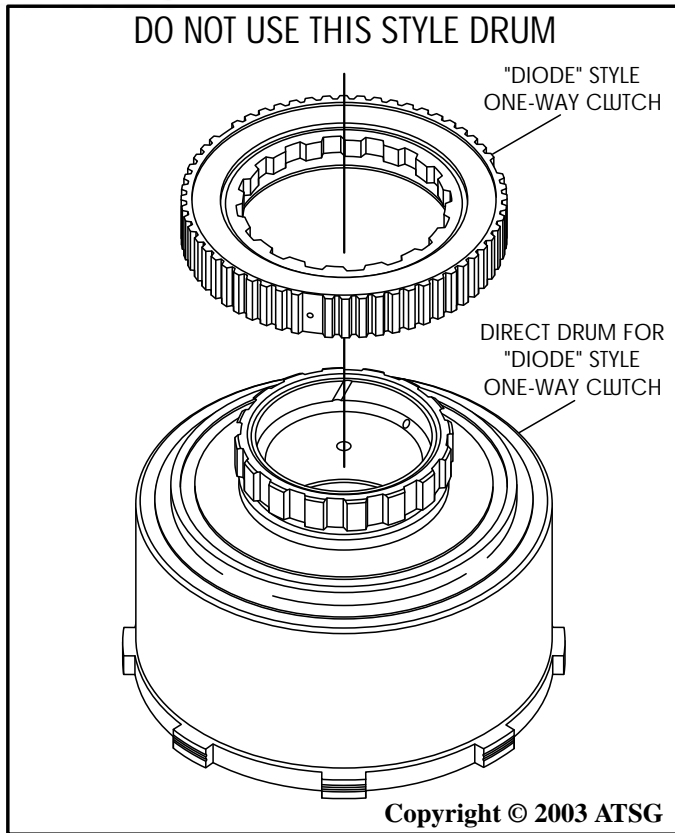

Figure 113
5. We have illustrated the "Diode" style one-way intermediate clutch and the associated direct clutch drum in Figure 113.